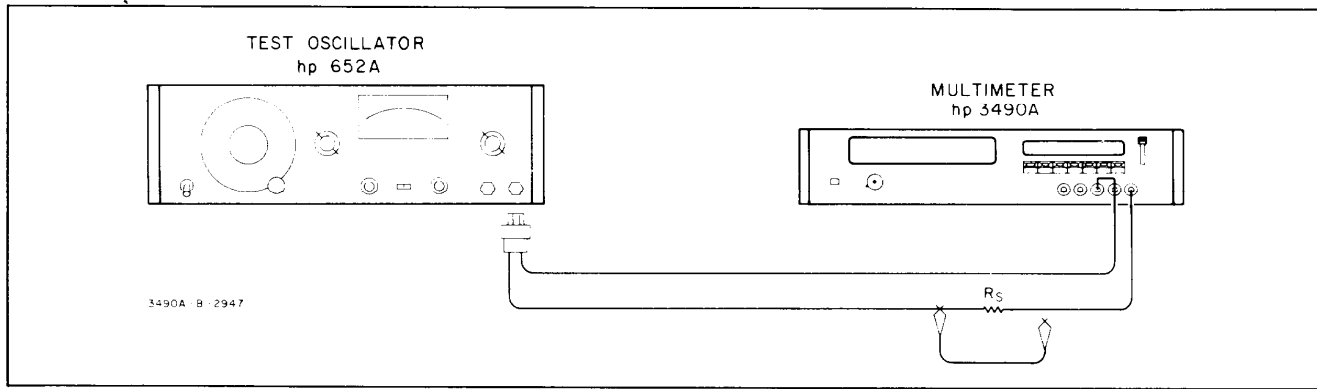

Figure 5-6. AC Voltmeter Input Impedance Test.
a. Connect 3490A, test oscillator, and $1\text{ M}\Omega$ resistor (R_S) as shown in Figure 5-6. Connect jumper across resistor as indicated.